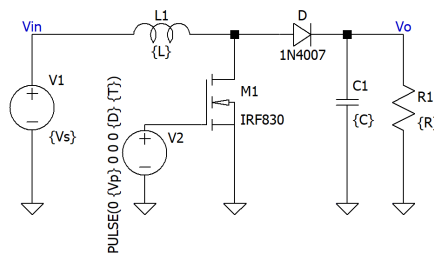

Figure 5.2 Boost Converter
1. Connect the circuit as shown in Figure 5.2.